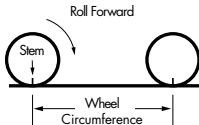

FIGURE 6: ROLL OUT METHOD
3. Roll the wheel one complete revolution until the valve stem is again at the 6:00 position. Read the tape directly under the valve and note the distance in millimeters. (To convert inches to millimeters, multiply inches by 25.4). Use this number to replace the default (default value is 2148) when programming your computer. (See figure 6)